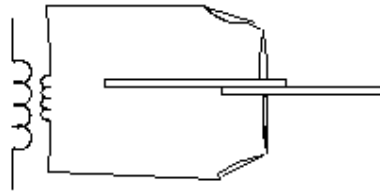

Fig. G2 Spot welding
- (ii) **Spot Welding:** For jointing two or even three sheets of metal by means of an overlapping joint, as shown in Fig G2, The sheets are held between two electrodes and current is passed between these electrodes, causing fusion at a single spot.